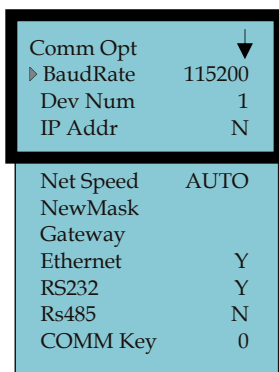

Figure 2-107 Comm Opt Menu
3. Press **OK** to display the Comm Opt menu (see **Figure 2-107**).